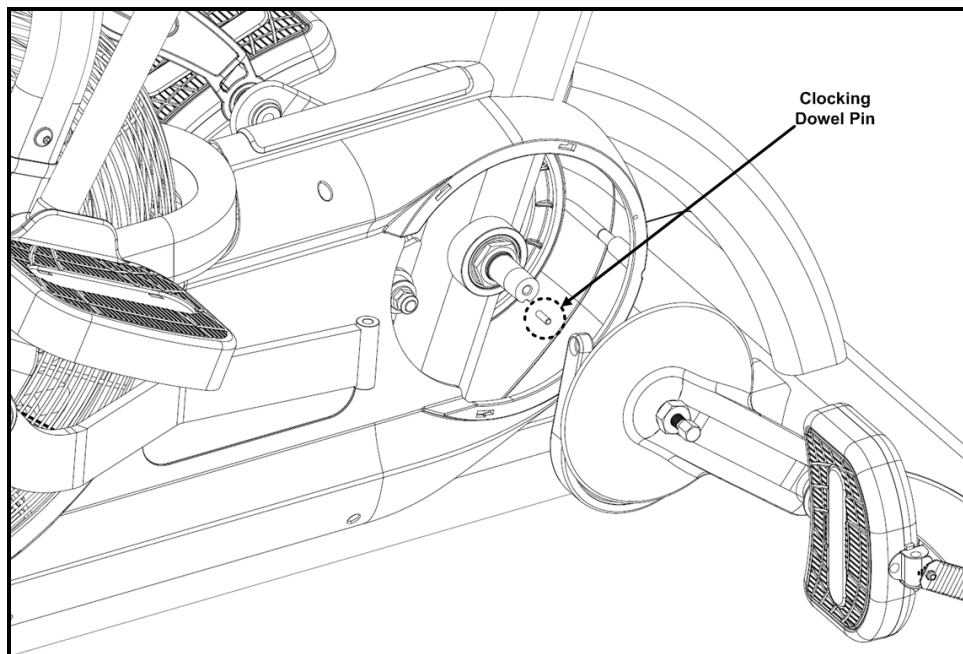

Fig. 5
5. Pull each crank arm assembly off the shaft verifying the clocking dowel pin (Fig. 5) is removed from the bottom bracket shaft.